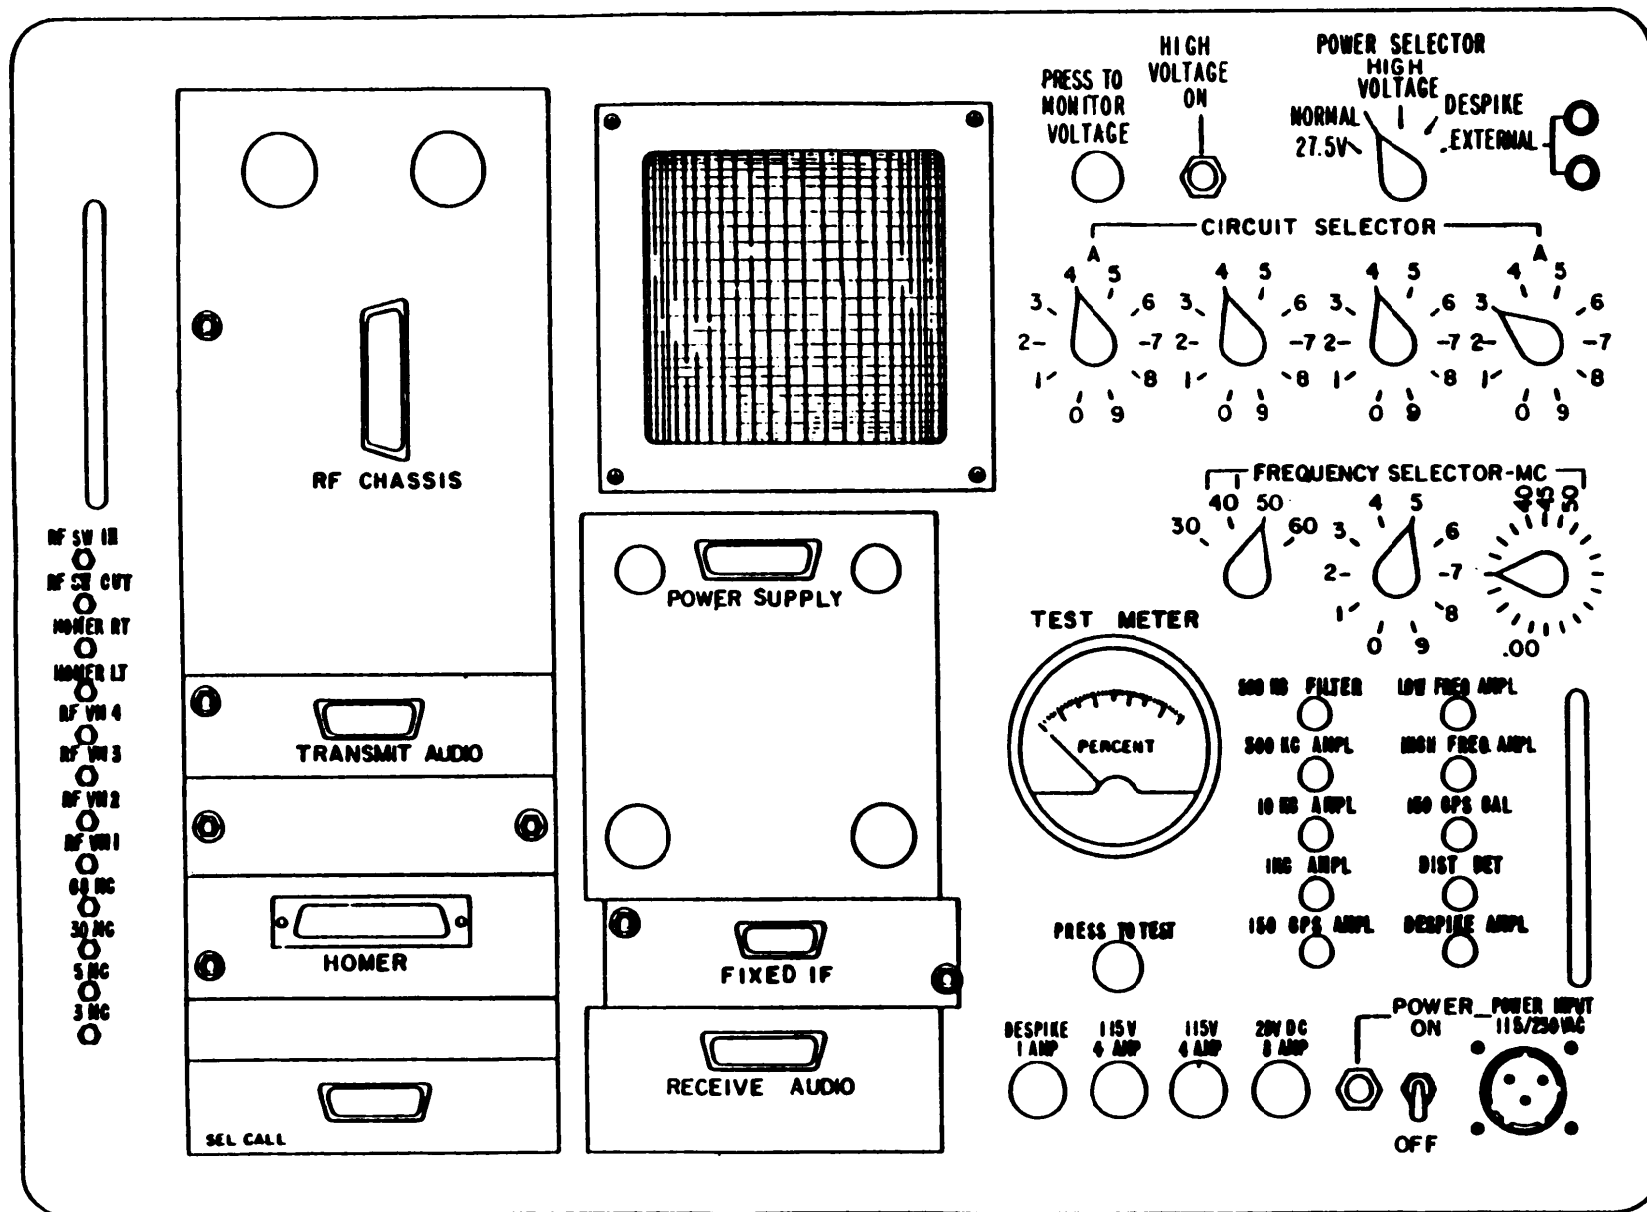

Figure 3-1. Operator's controls, indicators, connectors, and fuses.
Controls for the test set are described in table 3-1 and shown in figure 3-1.
a. Module Tester. The primary purpose of the test set is to test the individual modules of Radio Set AN/ARC-54. The front panel of the test set (fig. 3-1) contains a mating connector for each individual AN/ARC-54 module. Function switches on the test set connect power and simulated loads to the various module circuits and a metering circuit
a Preliminary Switch and Control Setting (fig. 3-1). Set the switches and controls on the test set as follows: POWER switch to OFF, POWER SELECTOR switch to 27.5V, and DESPIKE AMPL control to full counterclockwise position.
b. preliminary Connections and Adjustments (fig. 3-1).
(1) Connect the power cable connector end to the POWER INPUT 115/230 VAC connector on the front panel.
(2) Connect the other end of the power cable to a 115-volt alternating current (ac) power source.
(fig. 3-1)